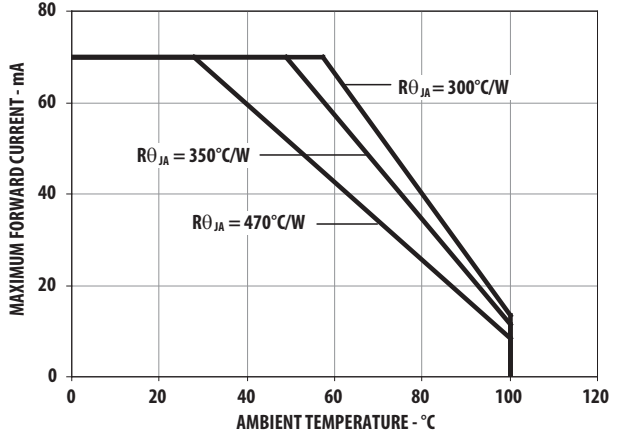

Figure 7: Maximum Forward Current vs. Solder Point Temperature. Derated Based on $T_{JMAX} = 110^{\circ}\text{C}$, $R_{\theta J-A} = 110^{\circ}\text{C/W}$
a. Derate Linearly as shown in Figure 6 and Figure 7.